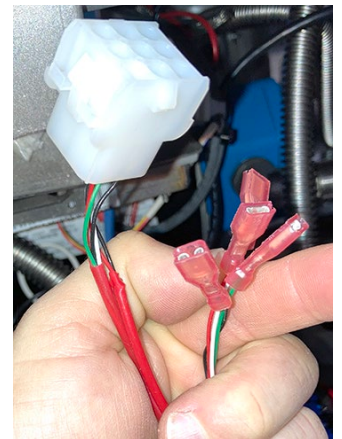

Figure 27
25. Pull both the 9-pin connector and four (4) dispose valve spade connectors through the large Heyco bushing on the rear of the FIB box (see Figure 27).